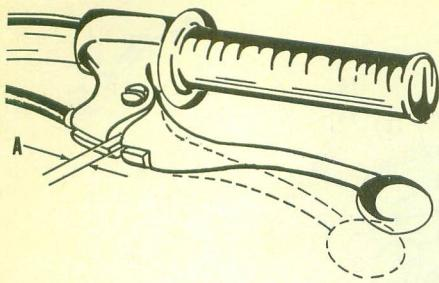

Fig. Y4-9-The clutch hand lever should have 2-3MM free play at (A).
**CLUTCH CONTROLS.** The clutch hand lever should have 1/16-1/8 inch free play at (A—Fig. Y4-9). To adjust, remove the engine left side cover or clutch screw cover and loosen lock nut. Turn the adjusting screw (S—Fig. Y4-10) in until slight resistance is felt, then back screw out  $\frac{1}{4}$  turn and tighten lock nut. Turn the cable guides at ends of cable until the hand lever free play (A—Fig. Y4-9) is correct.